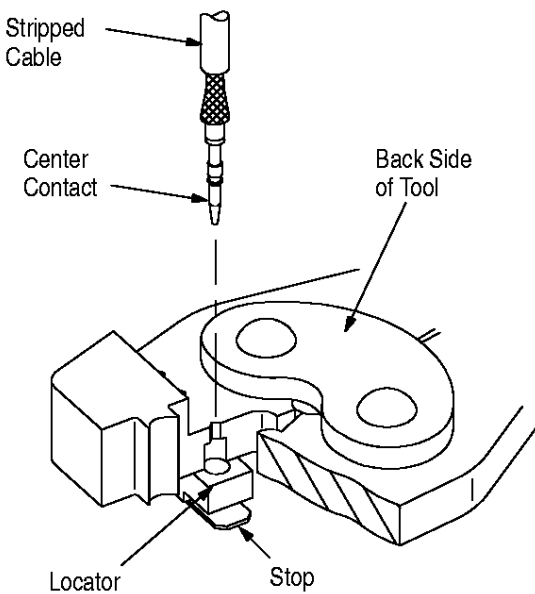

Figure 3
4. Insert center contact into tool locator until it butts against the stop. See Figure 3.